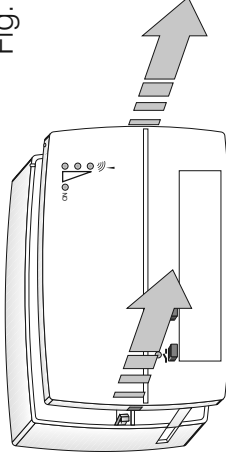

Fig. 4.i
- Remove the front from the base (the resistance to removal is due to the coupling pin on the terminal strip) fig. 4.i.